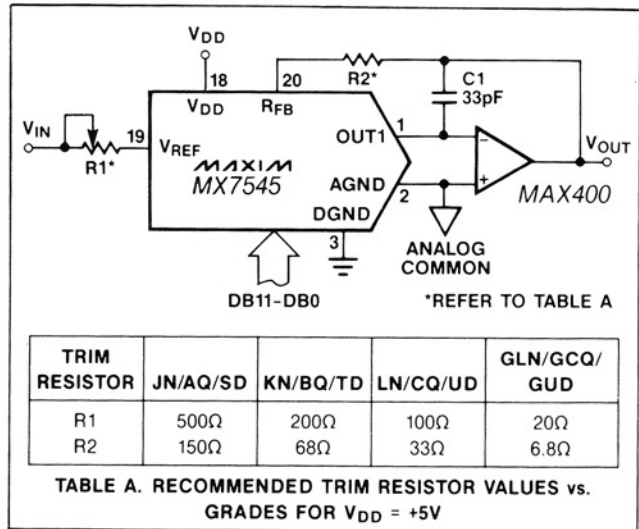
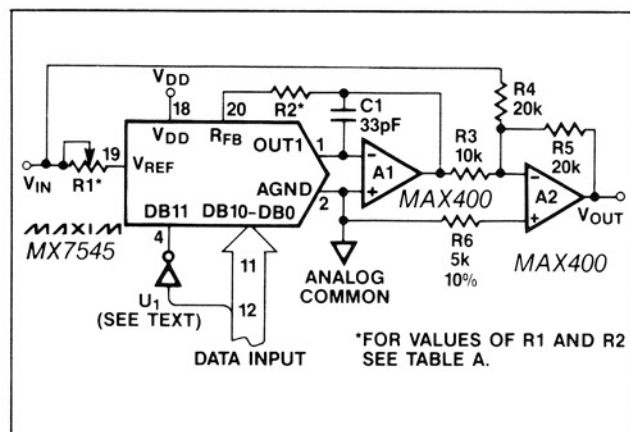
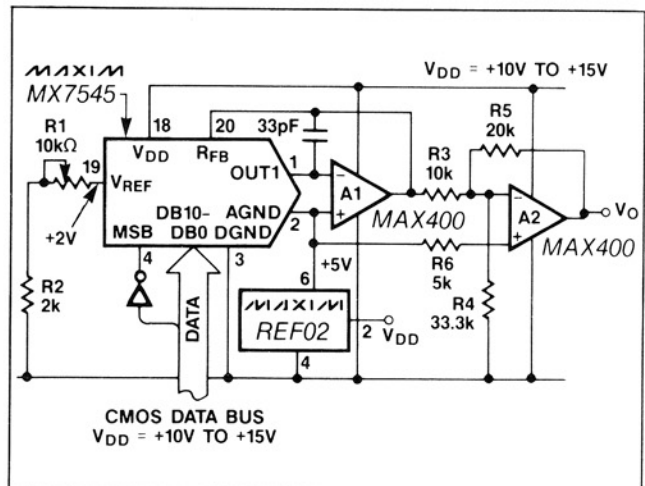

Figure 3. Unipolar Binary Operation
Figure 4. Bipolar Operation (2's Complement Code)
Figure 8. Single Supply "Bipolar" 2's Complement D/A Converter
**Note 1:** Using internal feedback resistor, RFB. DAC register loaded with 1111 1111 1111. Gain error is adjustable using the circuits of Figures 3, 4 and 8.
Either current output can be converted into a voltage externally by adding an output amplifier (Figure 3). The  $V_{REF}$  input accepts a wide range of signals including fixed and time varying voltage or current inputs. If a current source is used for the reference input, then a low temperature coefficient external resistor should be used for  $R_{FB}$  to minimize gain variation with temperature.
The most common configuration for the MX7545 is shown in Figure 3. This circuit is used for unipolar binary operation or two-quadrant multiplication. The
Table 1. Unipolar Binary Code Table for Circuit of Figure 3
In many applications the gain adjustment will not be necessary, especially when using the "G" suffix parts with guaranteed maximum  $\pm 1$  LSB gain errors. In those cases and also when the gain is trimmed at the reference source, resistors R1 and R2 in Figure 3 can be omitted. However, if the trims are desired and the DAC is operated over a wide temperature range, then low tempco ( $<300ppm/^{\circ}C$ ) resistors should be used for R1 and R2.
With the circuit configuration shown in Figure 4, the MX7545 operates in the bipolar, or 4-quadrant multiplying mode. A second amplifier and three matched resistors, R3, R4 and R5 are required. These resistors must be of the same material (preferably metal film or wire-wound) for good temperature characteristics, and they should match to 0.01% for 12-bit performance.
Table 2. 2's Complement Code Table for Circuit of Figure 4
To adjust the circuit with offset binary code, load the DAC with a code of 1000 0000 0000 and trim R1 for a 0V output. With R1 and R2 omitted, an alternative zero trim is to adjust the ratio of R3 and R4 for 0V out. Full scale can be trimmed by loading the DAC with all "zeros" or all "ones" and adjusting the amplitude of VREF or varying R5 until the desired positive or negative output is obtained. In many applications the gain adjustment will not be necessary, especially when using the "G" suffix parts with guaranteed maximum  $\pm 1$  LSB gain errors. In those cases and also when the gain is trimmed at the reference source, resistors R1 and R2 in Figure 4 can be omitted. However, if the trims are desired and the DAC is operated over a wide temperature range, then low tempco ( $<300\text{ppm}/^\circ\text{C}$ ) resistors should be used for R1 and R2.
Figure 6. Differential Nonlinearity vs.  $V_{DD}$  for Figure 4 Circuit. Reference Voltage = 2.5 Volts. Shaded Area Shows Range of Values of Differential Nonlinearity that Typically Occur for L, C and U Grades.
The unipolar and bipolar circuits in Figures 3 and 4 can all be converted to voltage output mode. For example, Figure 8 shows the 2's complement bipolar circuit of Figure 4 modified to work with an output range of +2V to +8V around an offset ground potential of +5V from a single supply,  $V_{DD}$ , of +10V to 15V. The REF02 reference is used to bias the AGND at +5V. The R1 and R2 resistors form a voltage divider together
Figure 7. Differential Nonlinearity vs. Reference Voltage for Figure 4 Circuit.  $V_{DD}$  = 15 Volts. Shaded Area Shows Range of Values of Differential Nonlinearity that Typically Occur for L, C, and U Grades.